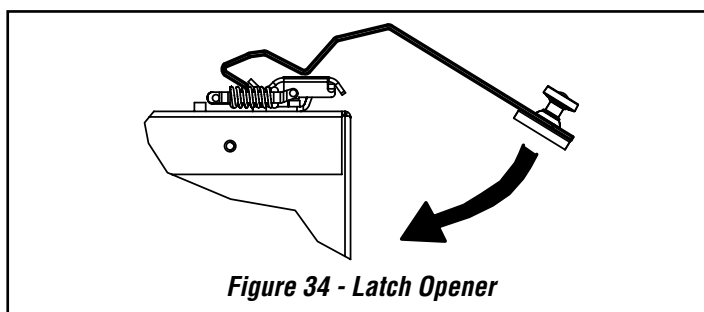

Figure 34 - Latch Opener
3. Hook opener over latch as shown in **Figure 34**. Swing the bottom of the opener over toward the door. You will not need to pull down.